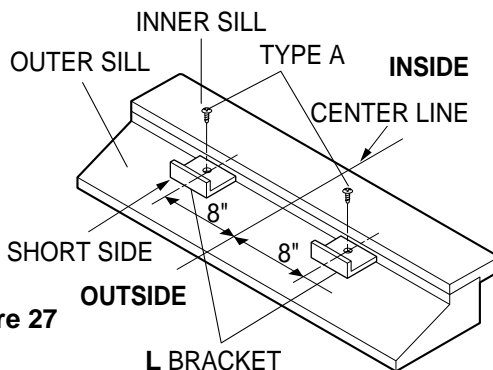

Figure 27
- a. Carefully lift the air conditioner and slide it into the open window. Make sure the bottom guide of the air conditioner drops into the notches of the L bracket. See Figure. 27.